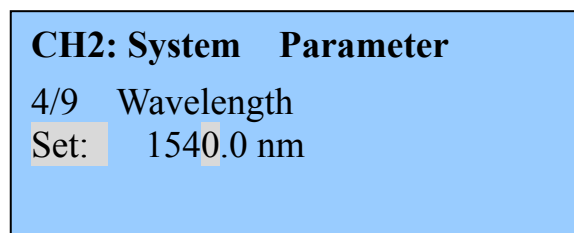

Figure 6 - Editing a parameter
- 2 Move to the <Averaging Time> parameter and press [MENU] twice. You see the screen in Figure 6.